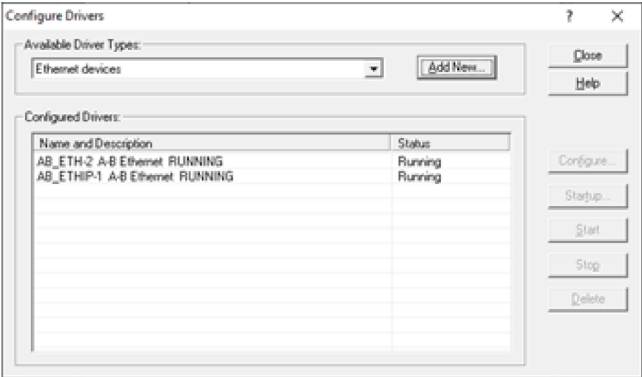

Fig. 24 — Configure Drivers
- 1. When starting CCW go to Communications drop down and select Configure Drivers. See Fig. 24.